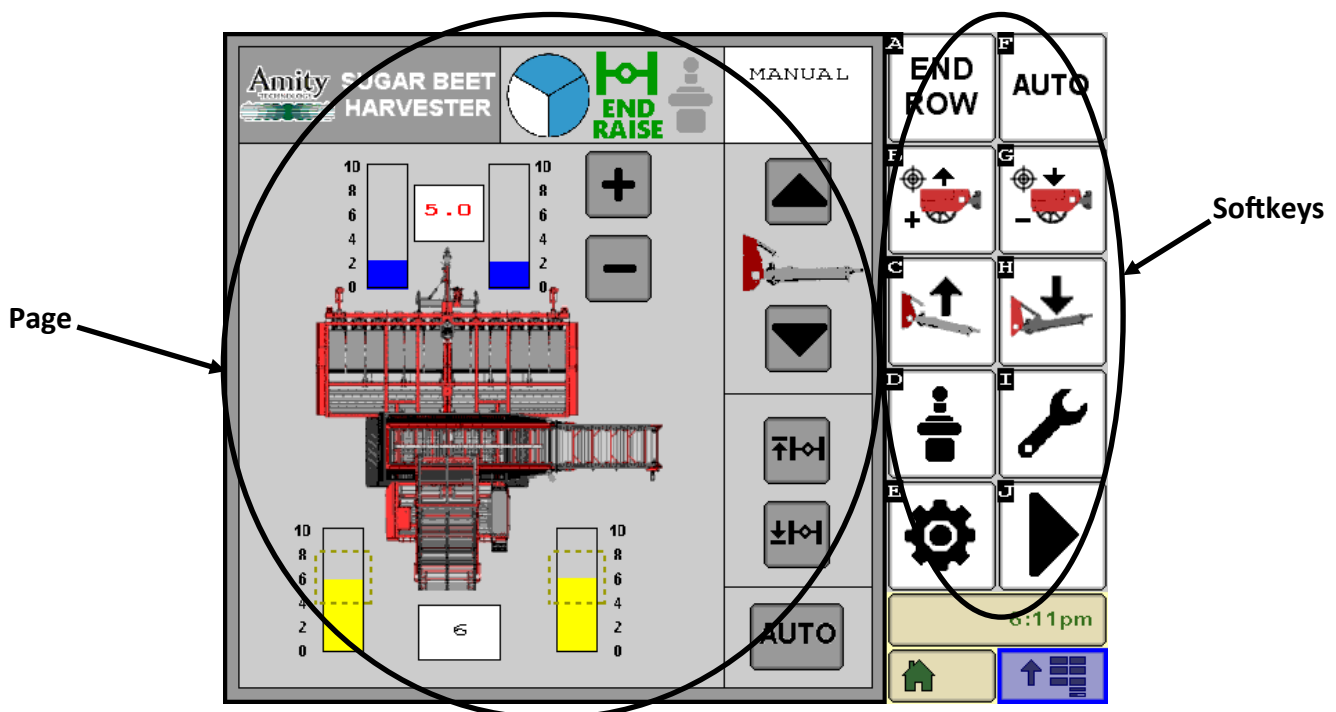

Figure 92—Screen Sections
- **Page:** A page is larger portion of the screen that displays the information about the system. Different pages will display different information and have different options for the user. For the definition purposes of this manual the VT will display two sections on the screen for use with the ADC system, the page and the softkeys. Figure 92 shows an example of the screen. Note, your screen may different in appearance.